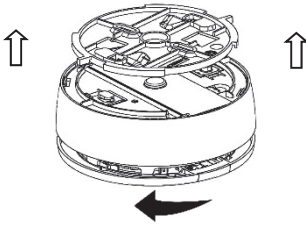

Figure 9
9. To Install the detector on the mounting bracket, align the base rib with the bracket rib, insert the base hooks into the bracket cavities and then turn the detector clockwise (*see Figure 9*).